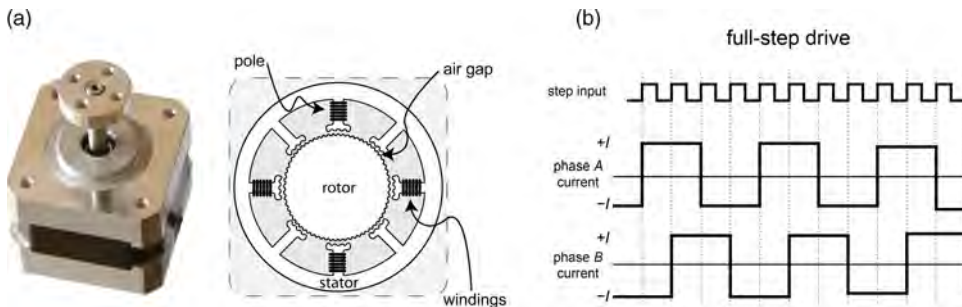

Figure 9-4: (a) Stepper motor external and internal structure; (b) full-step drive signals
Stepper motors, as illustrated in Figure 9-4(a), have toothed permanent magnets that are fixed to a rotating shaft, called *the rotor*. The rotor is surrounded by coils (grouped into *phases*) that are fixed to the stationary body of the motor (*the stator*). The coils are electromagnets that, when energized, attract the toothed shaft teeth in a clockwise or counterclockwise direction, depending on the order in which the coils are activated, as illustrated in Figure 9-4(b) for full-step drive:
- **Microstep:** Uses sine and cosine waveforms for the phase currents to step the motor rather than the on/off currents illustrated in Figure 9-4 (b) and thus allows for higher step resolutions (though the torque is significantly reduced).